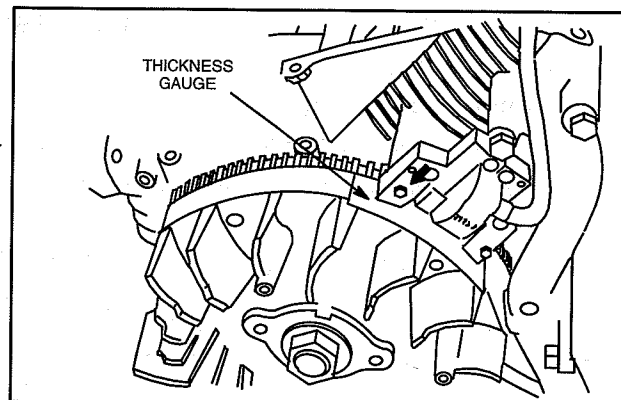

Fig. 3 - Adjust Air Gap
2. Place thickness gauge, .008"-.012" (0.20-.30 mm) between magnet and armature laminations, Fig. 3.